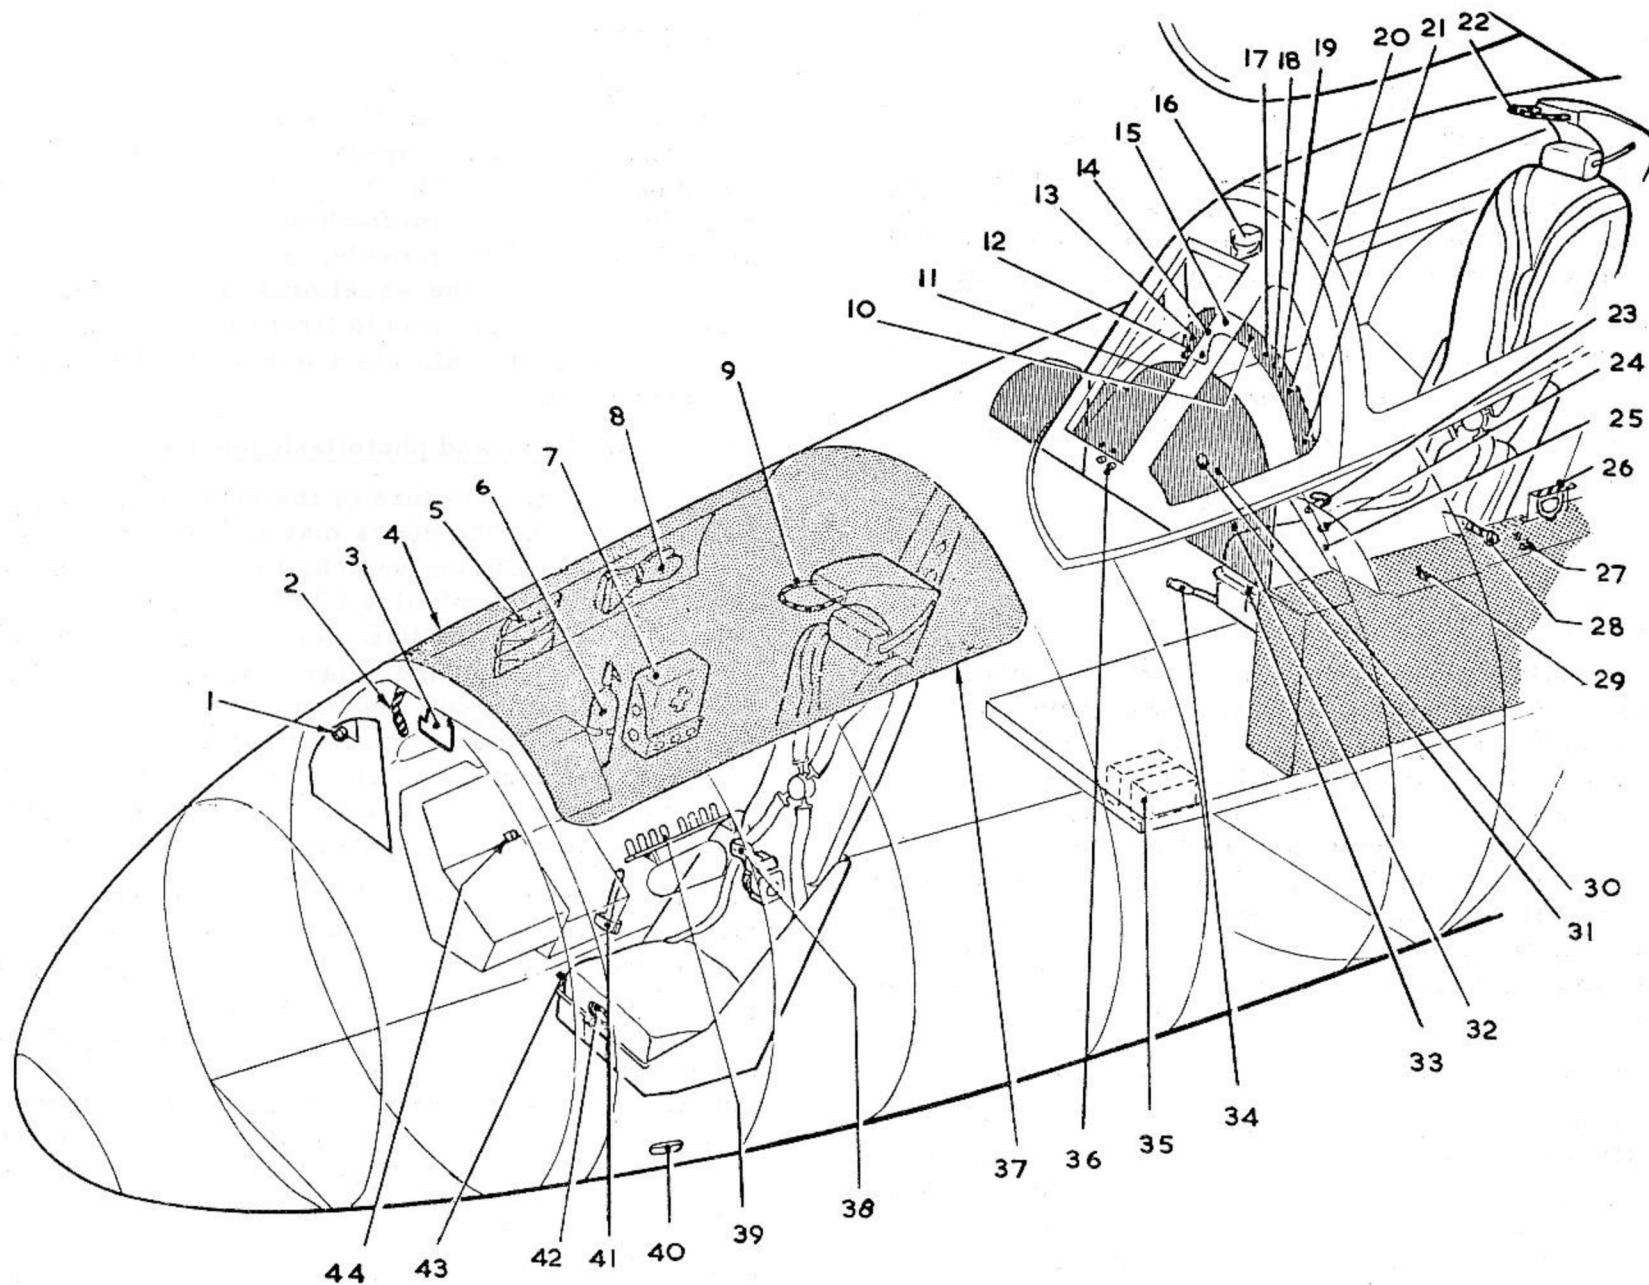

Fig. 1 Emergency controls, equipment and exits
KEY TO FIG. 1
1. This chapter describes the location of emergency controls, equipment and exits, and the methods of operation where this is not obvious. Location of the various controls and equipment is shown pictorially in fig. 1. A full description of the systems employed together with the servicing procedure, is given in the following sections:-